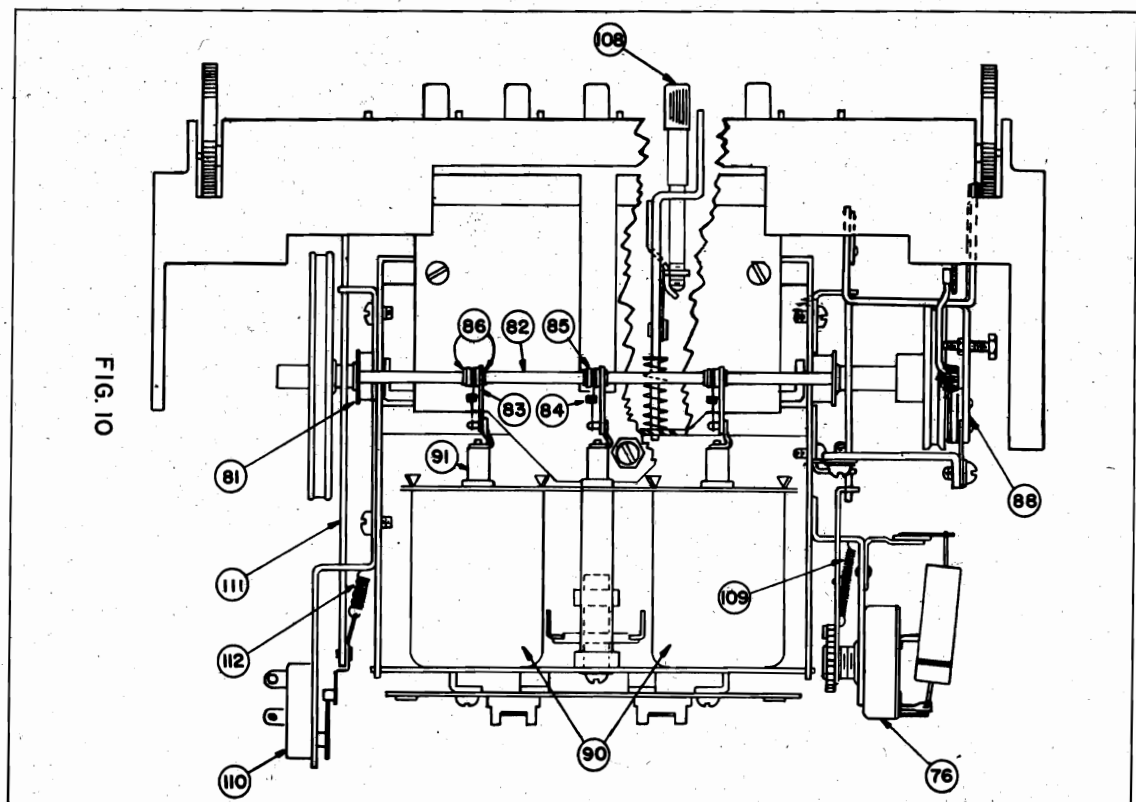

Fig. 10 Parts Layout - Tuner Unit - Bottom View
1. Unhook the cord eyelets from drive pulley. Illustration 99 in Fig. 10.
4. File off the lower tip of the pointer guide pin, releasing the retaining washer and the cord pivot arms. Fig. 10.